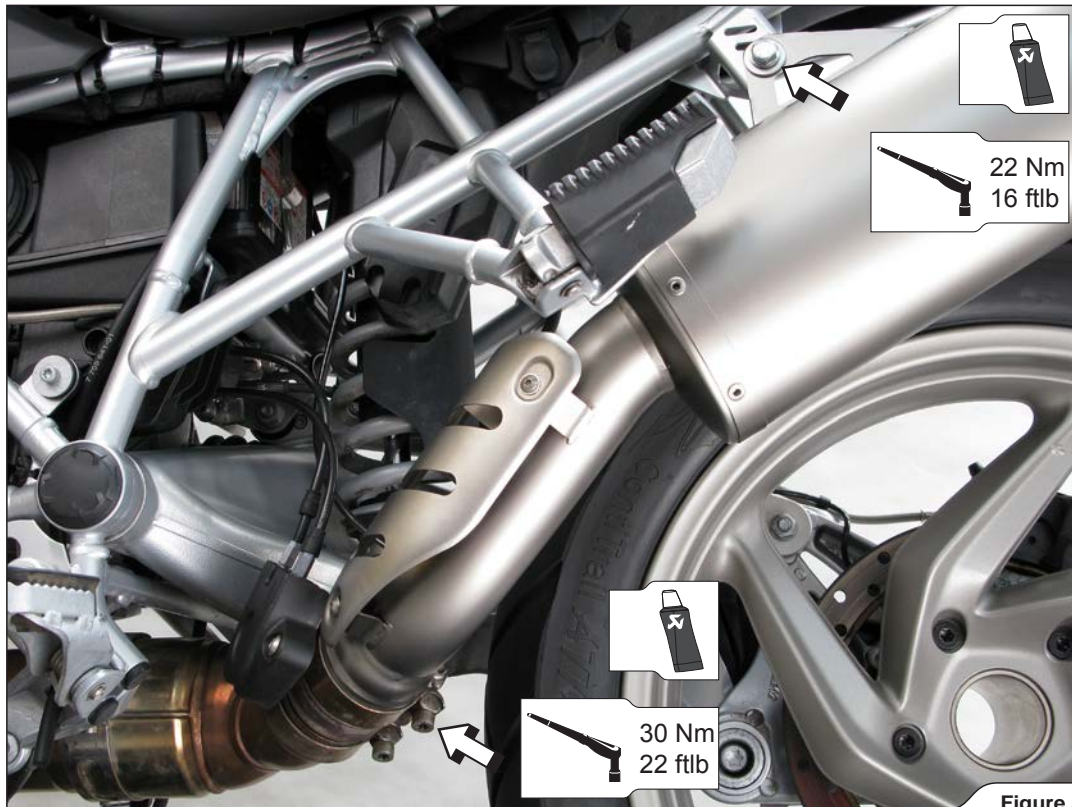

Figure 5
3. Position the muffler correctly and slide it onto the outlet side of the stock exhaust valve. Align the muffler in respect to the motorcycle and tighten the marked bolts to a specified torques (**Figure 5**).